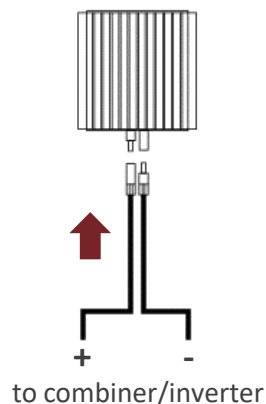

Figure 12: Connecting the output connectors
5. Connect the appropriate cables to the output (OUT) of the String Optimizer. Pay special attention to the voltage polarity and the connector gender of these cables as illustrated in Figure 12. See: